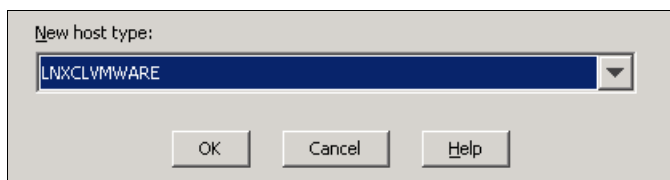

Figure B-5 Selecting the LNXCLVMWARE host type in DS Storage Manager
- If the host type is set at the host group or host port level, click the **Mappings** tab in the Storage Manager window. Locate and highlight your host name, and click **Change Host Type** (Figure B-5).